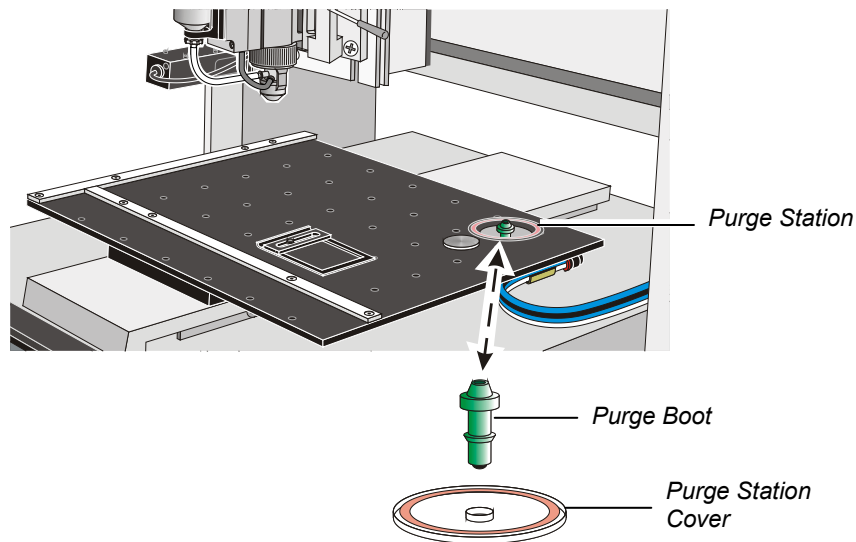

Figure 4-2 Replacing the Purge Boot
2. Remove the purge station cover (Figure 4-2).